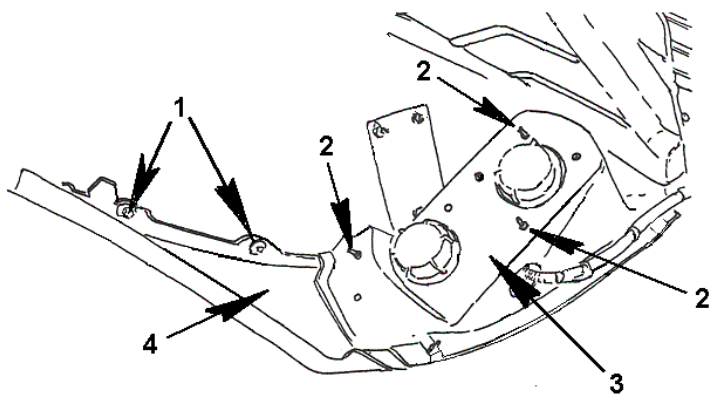

Figure 43 Headlight Assembly Remove
2. Tilt the hood assembly forward and disconnect the headlight harness (Figure 43, Item 3).
3. Loosen and remove the three (3) headlight assembly mounting nuts from the headlight assembly mounting studs (Figure 43, Item 2) on the rear of the headlight housing.